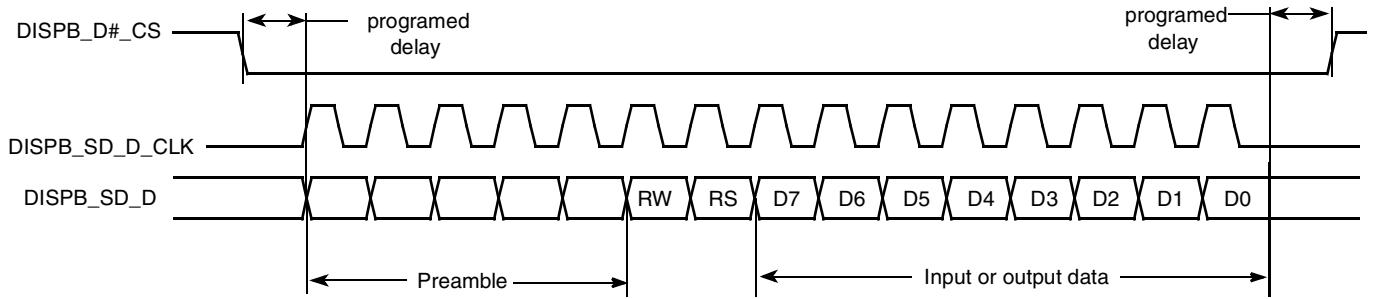

Figure 61. 3-Wire Serial Interface Timing Diagram
**Figure 61** depicts the timing diagram of the 3-wire serial interface. The timing diagrams correspond to active-low IPP#\_CS signal and the straight polarity of the IPP\_CLK signal.